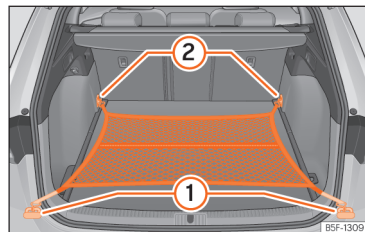

Fig. 189 In the boot: net bag hooked up at floor level.
- Secure the net hooks to the fastening rings »» Fig. 189 ① and ② »» ⚠. The bag zip should be facing upwards.